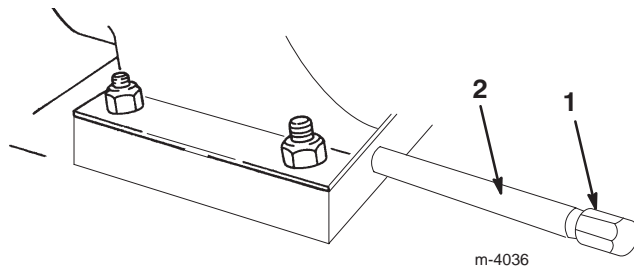

Figure 38
3. Clean the area around the oil drain plug (Fig. 38).